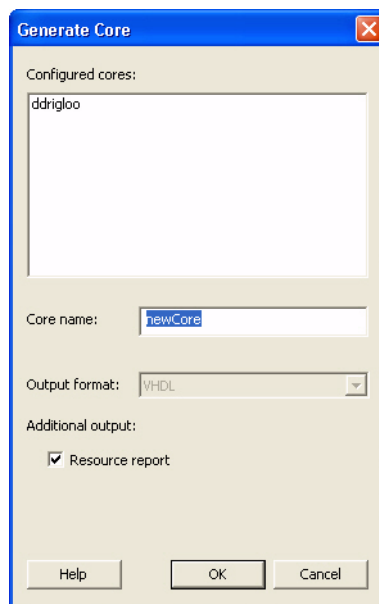

Figure 8-5 • Generate Core Window
- Once the desired configuration is selected, click the **Generate** button. The Generate Core window opens (Figure 8-5).